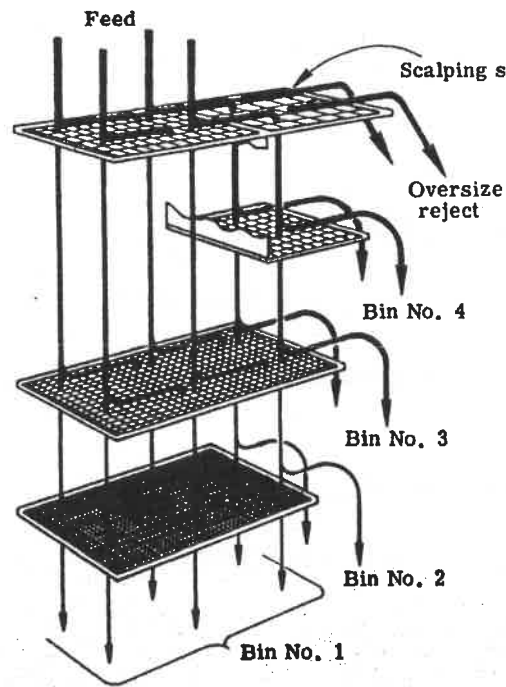

Figure 1
6. In Figure 1, on the previous page, the aggregates are separated into _____ bin sizes.
9. As aggregates are emptied onto the top deck in Figure 1, some of the aggregates fall directly to the third deck. This prevents the second deck from becoming _____.